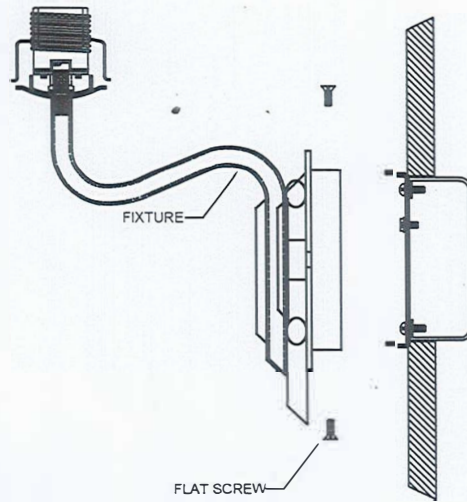

FIGURE-02
- Attach the fixture to the mounting ring with wing and secure it with flathead screws (See Figure-02)